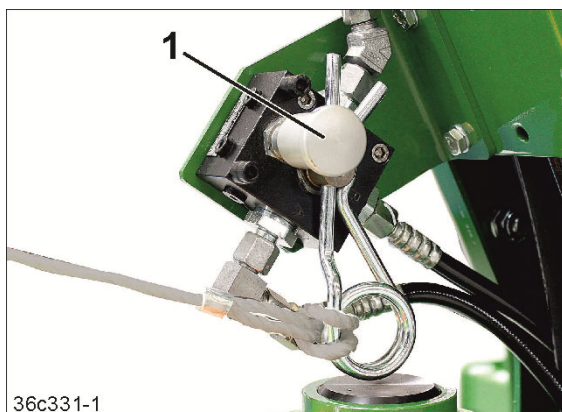

Fig. 137
- 3.1 Actuate the valve (Fig. 137/1). This empties the hydraulic accumulator.